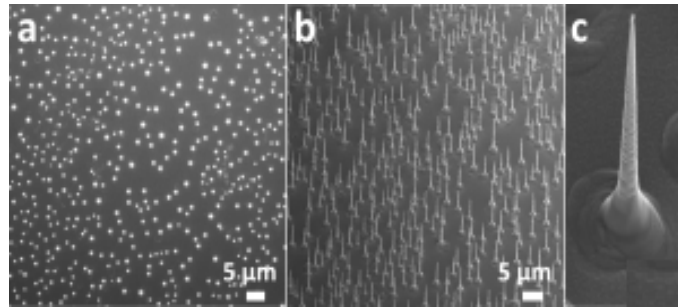

Figure 9: GaAs nanowire
4. It is the most significant manufacturing process for III-V compound semiconductors (eg. GaAs as shown in figure 9) of high purity, especially for those based on Gallium Nitride (GaN). It is also used for growing II-VI semiconductors such as Cadmium oxide (CdO), Zinc Sulfide (Zns) etc.